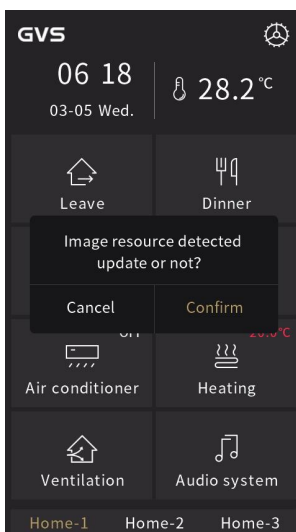

Fig.4.1
2. Insert Micro SD card into the device, if Micro SD card meet the above settings, and there are valid pictures, then pop up a window to request update, as shown in Fig.4.1;